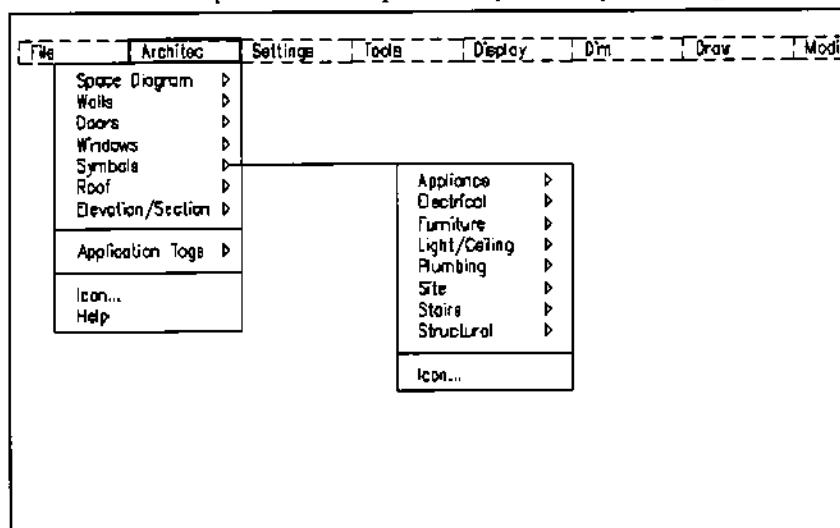

Figure 1.
1. The main symbol groups in the Architec pull-down menu include Appliances, Electrical, Furniture, Lighting/Ceiling, Plumbing, Site, Stairs, and Structural, as shown in Figure 1.